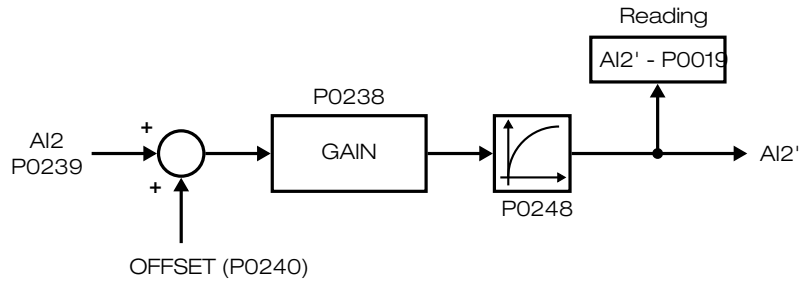

Figure 5.31: Block diagram of analog input AI2
- See Figure 5.31 on page 5-51.